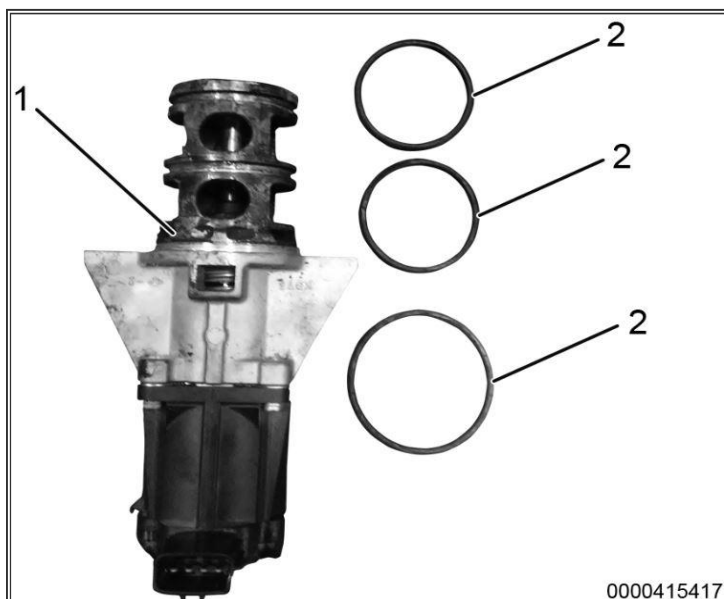

Figure 8: EGR Valve
- 2. EGR Valve O-ring (3)
33. Remove EGR valve O-rings (Figure 8, item 2) from EGR valve (Figure 8, item 1) and discard. Refer to appropriate service manual for detailed instruction.